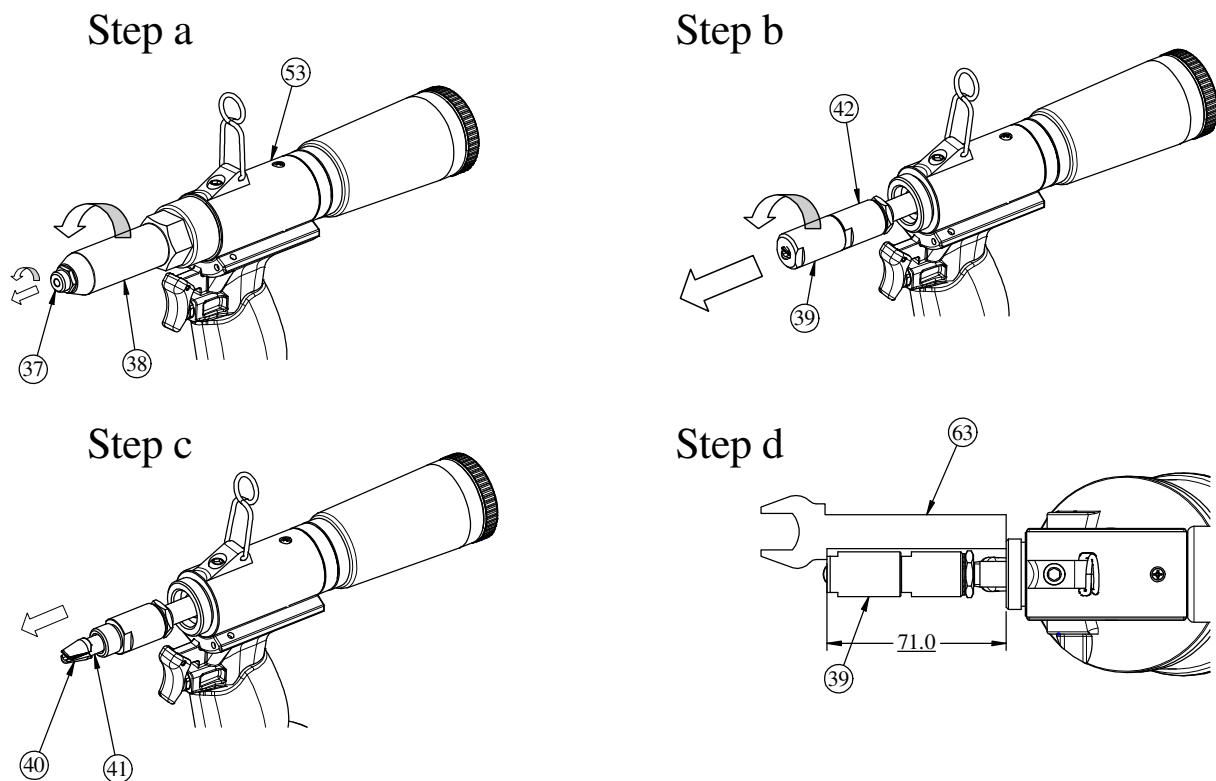

Fig. 2 Detail illustration of change the nosepiece, jaw, and jaw pusher.
- a. Loosen and remove the nosepiece (Index 37 in Figs. 2 & 5), then set up the desired nosepiece (Index 37~37-2 in Figs. 2 & 5) on frame head as shown in Fig. 2;
- b. Loosen and remove the frame head (Index 38 in Figs. 2 & 5) from the oil cylinder body (Index 53 in Figs. 2 & 5) as shown in Fig. 2;
- c. Loosen and remove the jaw housing (Index 39 in Figs. 2 & 5) from the jaw housing coupler (Index 42 in Figs. 2 & 5) as shown in Fig. 2;
- d. Take out the jaw and jaw pusher (Index 40, 41, in Figs. 2 & 5), then change on the matching the jaw and jaw pusher.
- e. Then assemble the jaw housing and adjust it's length to match the spanner gauge (Index 63 in Figs. 2 & 5) as shown in Fig. 2;